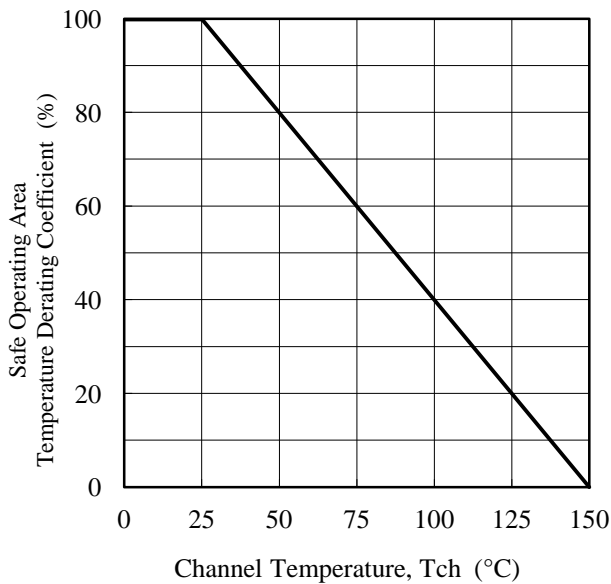

Figure 3-1 SOA Temperature Derating Coefficient Curve
(1) Refer to Figure 3-1 SOA Temperature Derating Coefficient Curve
- When the IC is used, the safe operating area curve should be multiplied by the temperature derating coefficient derived from Figure 3-1.